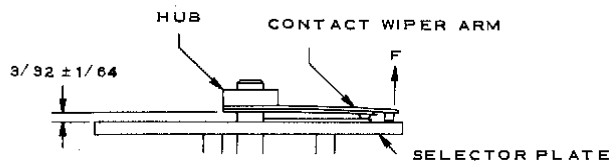

Figure 24. Wiper Arm Lateral Adjustment.
3. Inner blade of the wiper arm is set so that it is approximately $3/32$ " from the surface of the selector plate as shown in *Figure 24*. Force "F" of outer contact must be from $1\frac{3}{4}$ to $2\frac{3}{4}$ ounces.